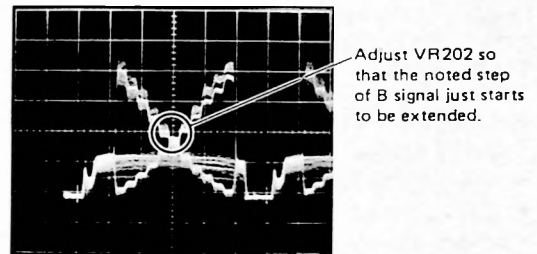

Fig. 4-4-45
- Turn back TRACKING-3 SET VR219 slowly and stop it at the point where the noted step of B signal just starts to be extended. (Fig. 4-4-45)